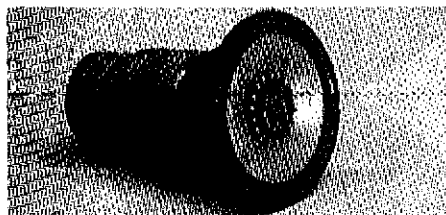

Figure 1-11 Fog nozzle
7. 1½-inch Fog nozzle (Figure 1-11)